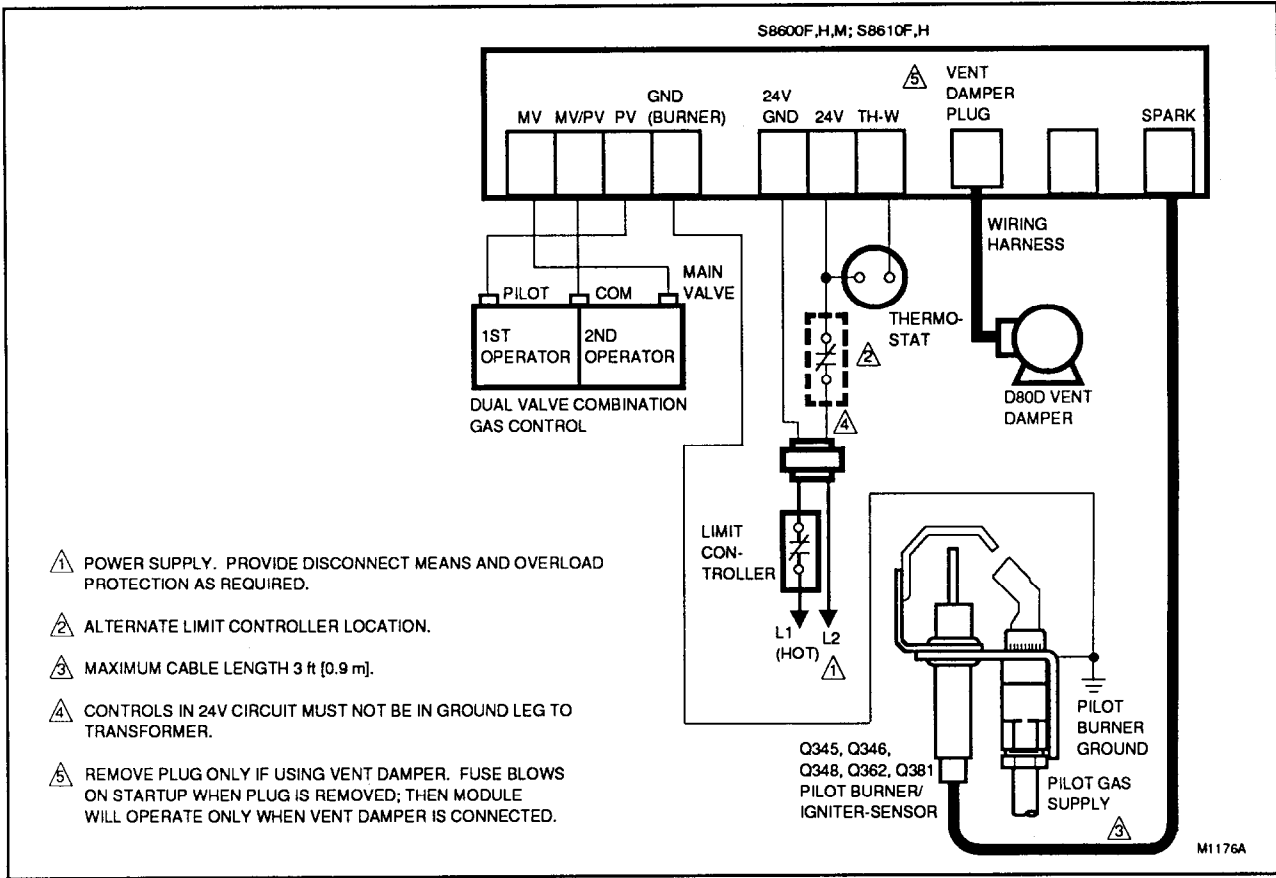

FIG. 3—S8600F,H,M; S8610F,H WITH VENT DAMPER PLUG IN A HEATING SYSTEM WITH AN ATMOSPHERIC BURNER AND A D800 VENT DAMPER.
- Fig. 3 shows S8600F,H,M; S8610F,H with vent damper plug in a heating only atmospheric burner system with D80D vent damper. *Never* use a vent damper in an LP gas system or in a fan-assisted combustion system.